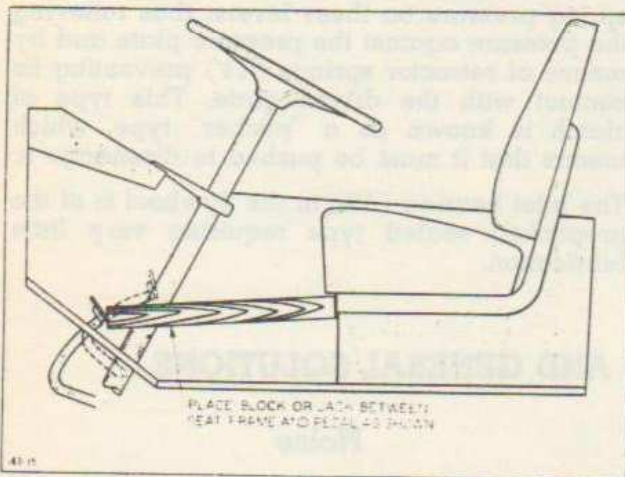

Fig. 1—Blocking Pedal in Disengaged Position
Engage the clutch by removing the block (or jack) shown in Figure 1. The adjusting shim clamps (9) then back away leaving the adjusting shims (11) free for removal.